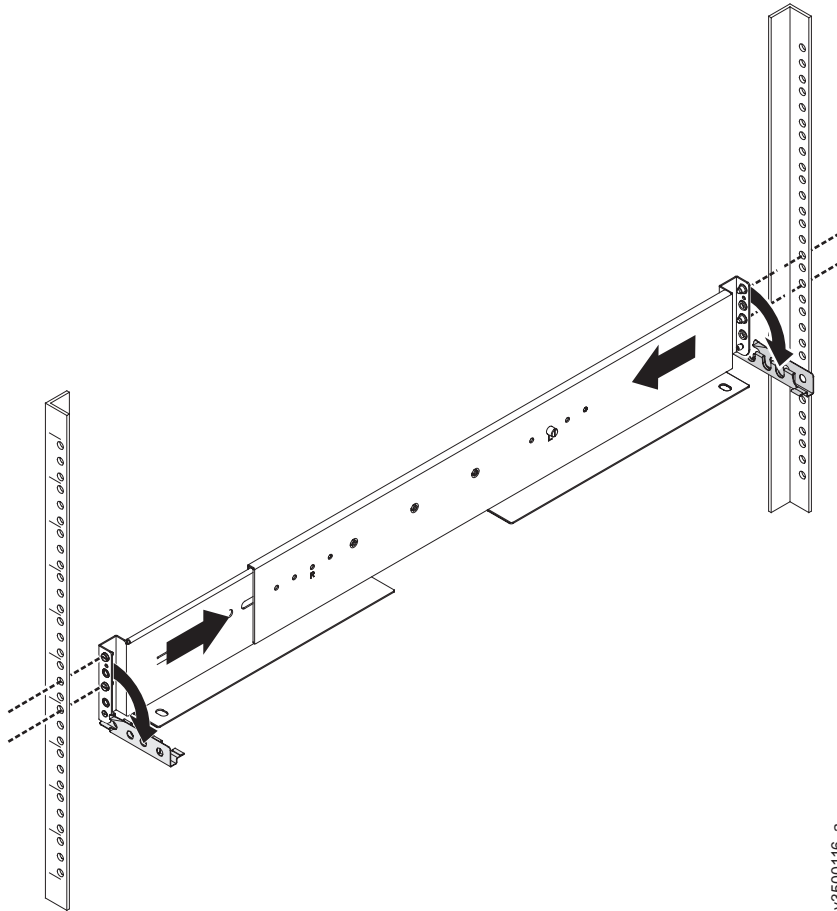

Figure 110. Compressing rail for removal from rack
11. Compress the rail against its spring to shorten it, then remove it from inside the rack (Figure 110 on page 361).